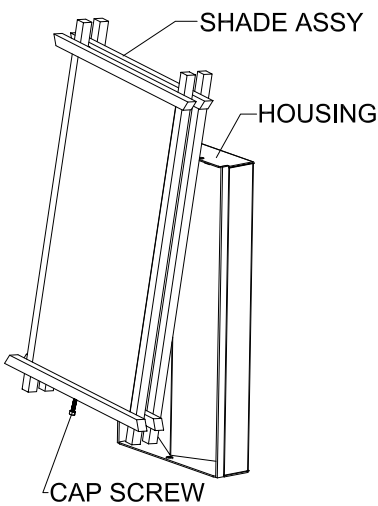

Figure 1
Step 1 Carefully unpack fixture and remove shade assembly from electrical housing. To remove the shade assembly, locate and remove the lower screw that retains the bottom bar of the shade assembly. Carefully remove screw and separate decorative shade assembly from electrical housing by pulling the lower portion out and lifting the shade assembly from the housing. (See Figure 1)
Step 8 Install decorative shade assembly. Position the top portion of the shade assembly towards the upper shelf of the fixture housing at a slight angle and align the posts in the shade with the holes in the top of the housing. Carefully lower the shade assembly towards the fixture housing. Secure into position with cap head machine screw. (See Figure 1 and 6)